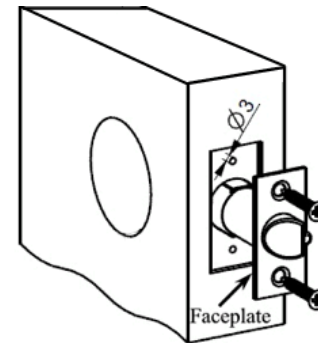

fig. 5
- 3.2 Use faceplate as a pattern for mortise and pilot holes. The faceplate should fit flush (see fig. 5).